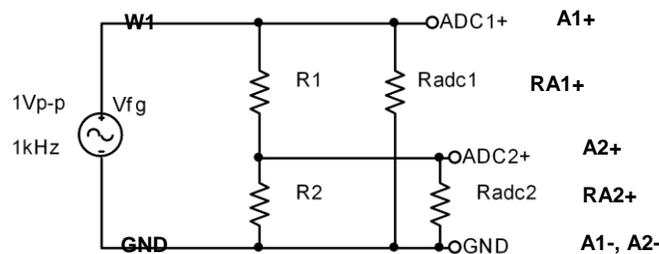

Figure B-7.
- The more exact model of this measurement is given in Figure B-7, where RA1+ and RA2+ represent the effective internal input resistances of the analog input channels of the M2K. The effective input resistance of A1+ can be ignored (Do you know why?), but the input resistance of A2+ effects the measurement. Using the measurements above, estimate the value of RA2+.